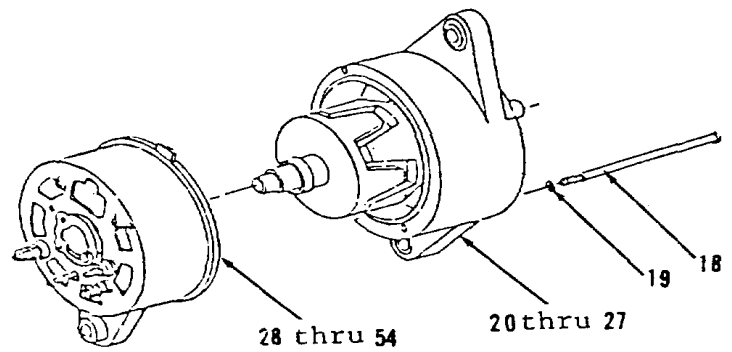

Figure 4-22.
15. Remove four screws (18) and washers (19, Figure 4-22).